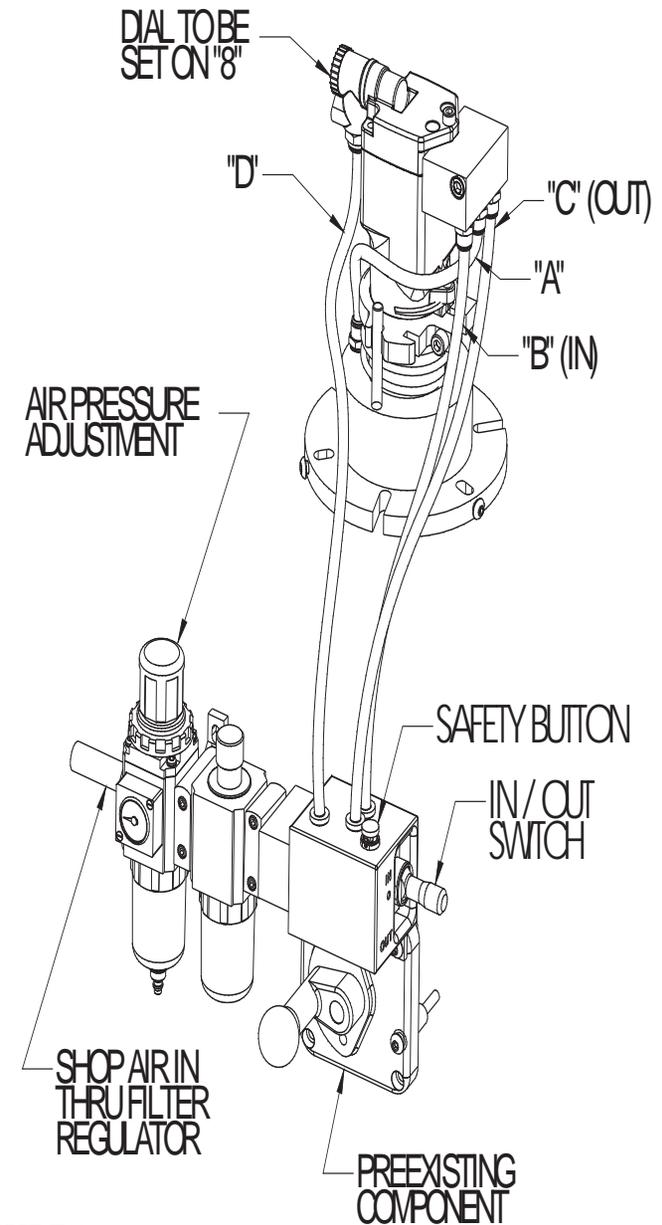

FIGURE 2
3. Hook up the air lines from the switch to the air motor and from the FRL as required. (see FIGURE 2)